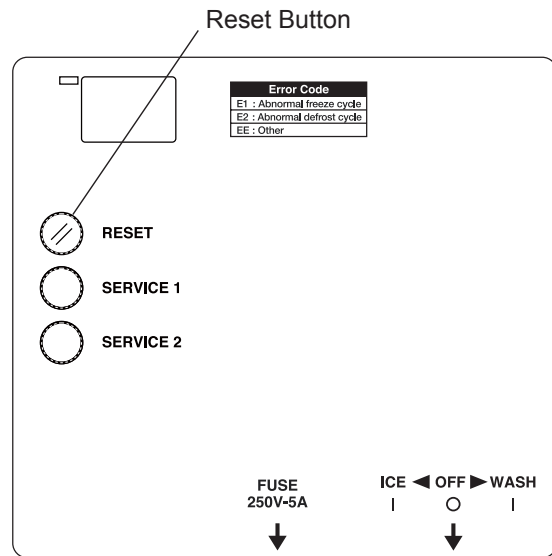

Fig. 7
- 6) Press the reset button. See Fig. 7. The water tank will start to open.